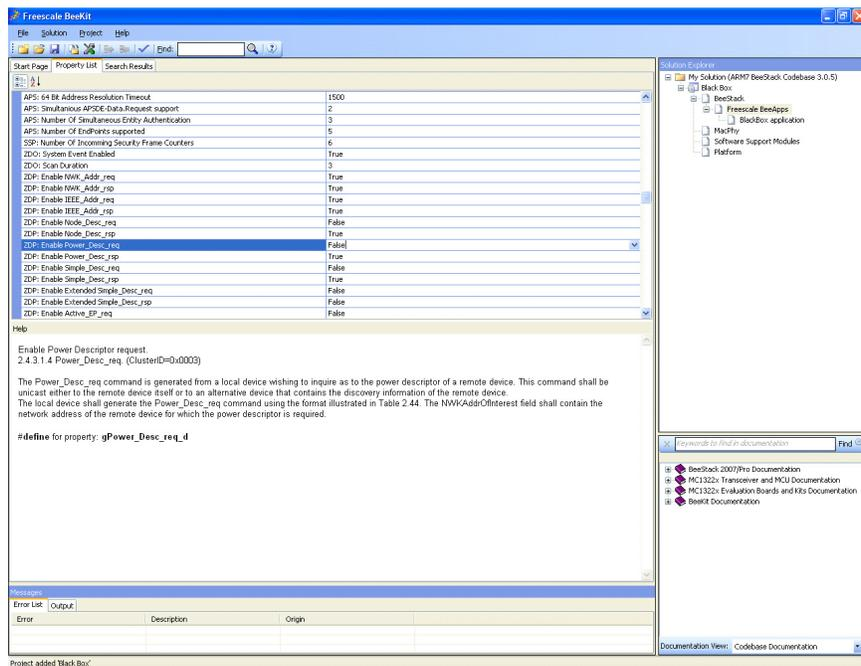

Figure 7-4. Project Configuration
- After configuring the devices as shown in Figure 7-4 and after completing the tasks in the project configuration wizard window, configure and match the project with a feature set.